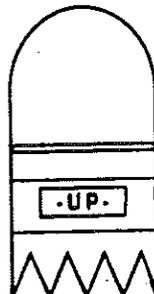

Fig. 3
5. Within 60 seconds the pen will BEEP and display UP. (see Fig. 3)